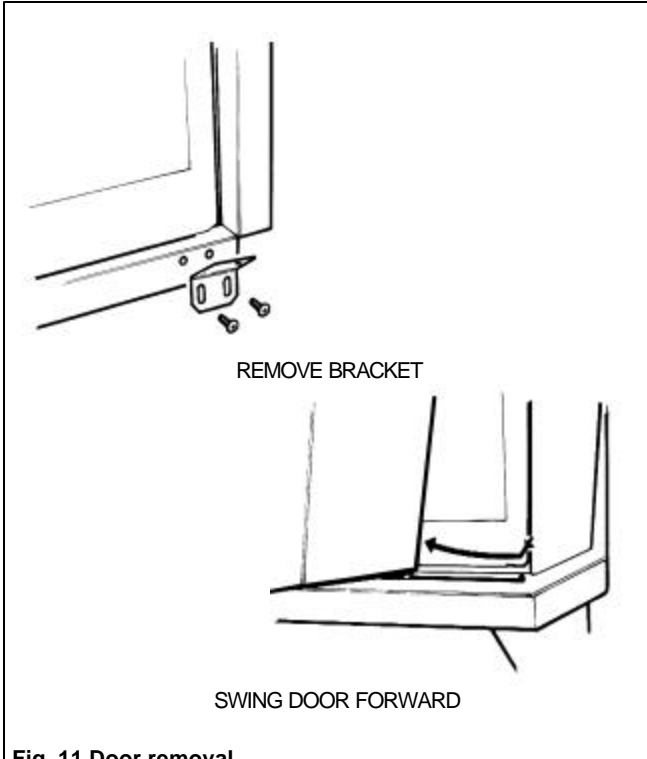

Fig. 11 Door removal
- 9.2.1 Detach the door retaining bracket (located near the rear right corner of the appliance main unit) by removing two screws (see figure 11).
- 9.2.2 Swing the bottom of the door forward to release the bottom pin from the slot in the case and lift the door clear (see figure 11).